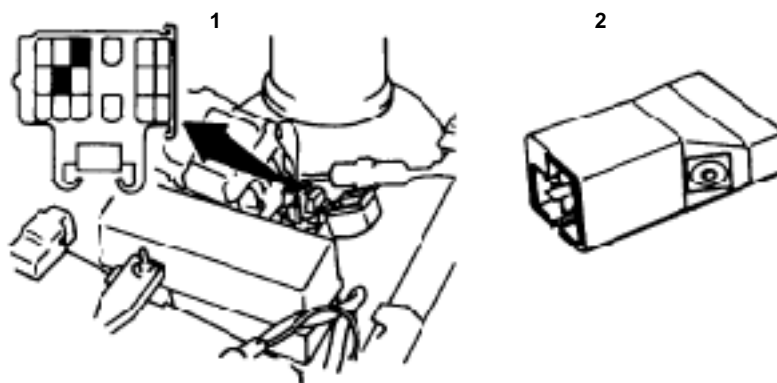

Figure 7-1 1989-95 Prizm connector location
- Connect the TOY-1 adapter to the connector in the box marked “diagnosis” on either fenderwell (Figure 7-1).